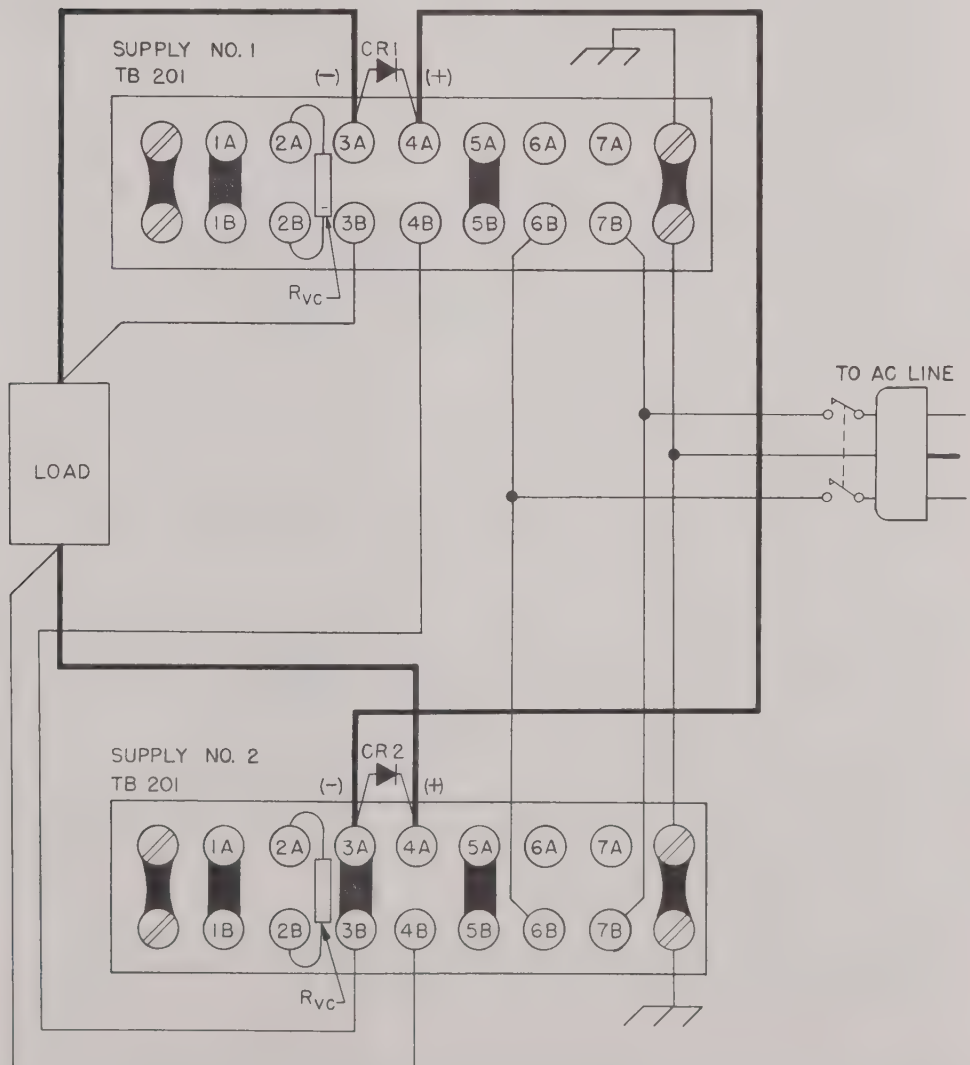

FIG. 3-8 CONNECTIONS FOR TWO PAR SUPPLIES IN SERIES
- 3-35 GENERAL. Kepco PAR power supplies can be series-connected for increase output voltage, provided, the specified limits on voltage to chassis are not exceeded. Series connected supplies must be protected by means of semiconductor diodes across the output terminals of each supply, as shown in FIG. 3-8. The peak inverse rating of these diodes must be at least as high as the output voltage of the supply to which they are connected. The continuous current rating of the diodes must be at least as large as the largest operating current of the supply to which they are connected.
3-36 PROCEDURE (Refer to FIG. 3-8)
- a) Connect supplies and load as shown in FIG. 3-8. Keep voltage drop in load wires as low as possible by using heavy gauge wire.